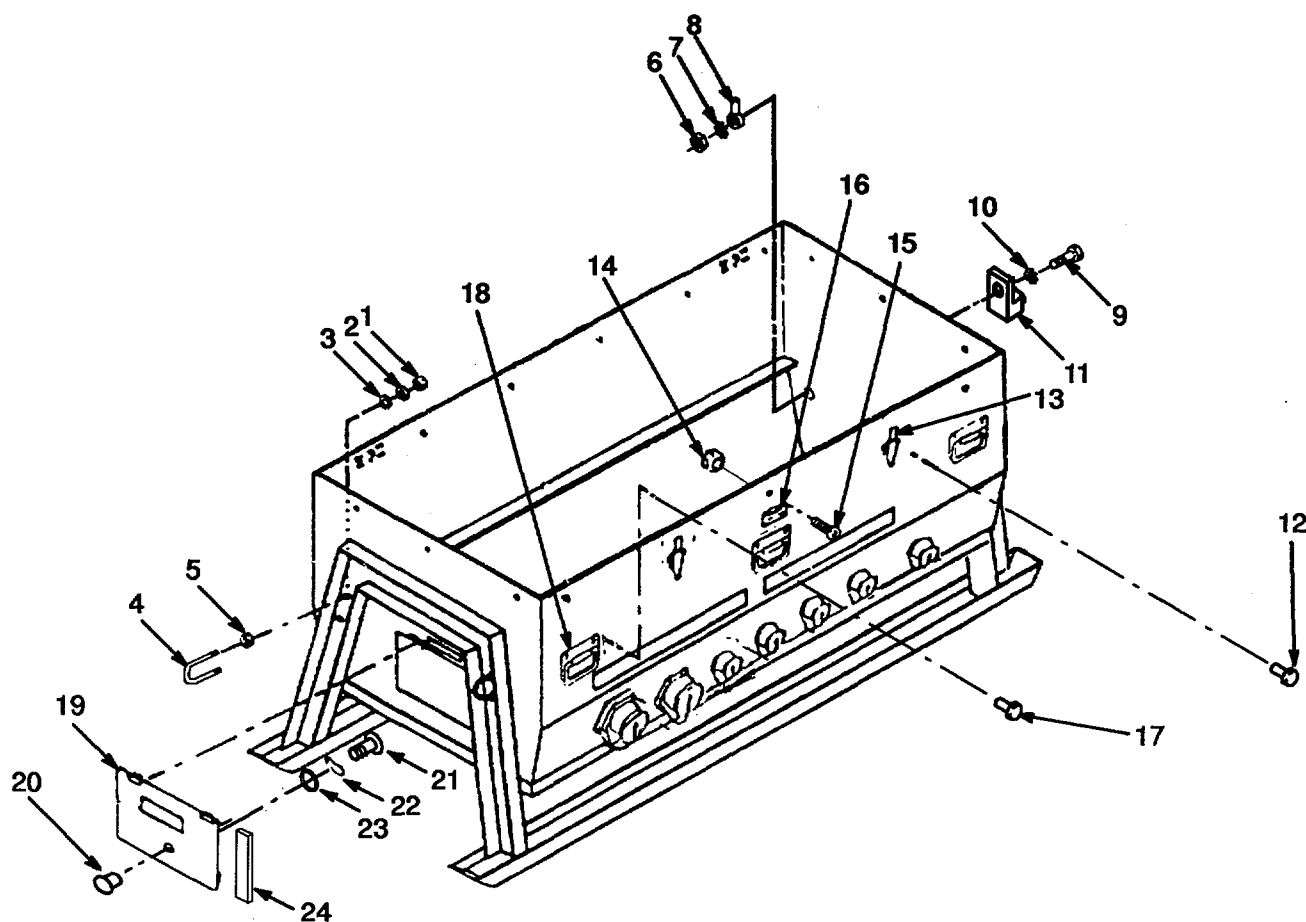

Figure 5-11. Cabinet Assembly.
- (1) Remove eight nuts (1, Figure 5-11), flat washers (3), lockwashers (2), and four U-bolts (4). Discard lockwashers (2).
- (2) Remove nuts (5) from U-bolts (4).
- (3) Remove nut (6) lock washers (7), terminal (8), screw (9), lock washer (10), and ground lug (11).
- (4) Drill out four rivets (12) and remove two latches (13).
- (5) Remove four nuts (14), screws (15), and nameplate (16).
- (6) Drill out thirty rivets (1 7) and remove six handles (1 8).